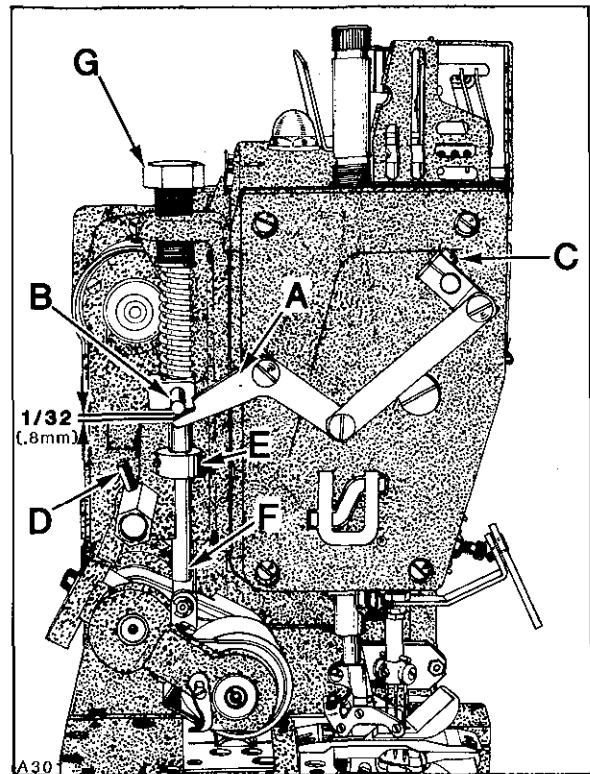

Fig.35
With puller in the operating position and presser foot resting on throat plate there should be 1/32 inch (.8mm) between puller lifter link (A, Fig. 35) and puller lifting pin (B). If adjustment is required loosen screw (C) in upper presser foot lifting shaft connection and raise or lower link (A) as required. Tighten connection screw (C) securely..